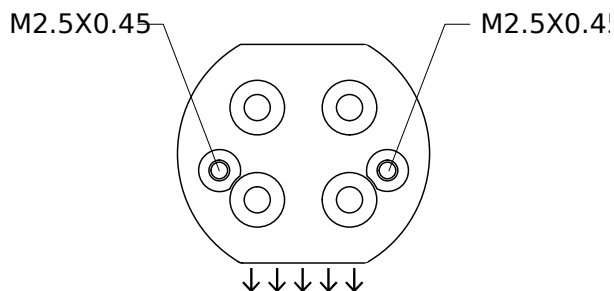

Figure 6: Proper adapter plate orientation (when all joints are at zero degrees, arrows should point towards the robot base)
2. Attach the adapter plate using the four M3X0.5X8 Torx flat head screws provided. Make sure to install the plate in the proper orientation, as shown in Figure 6